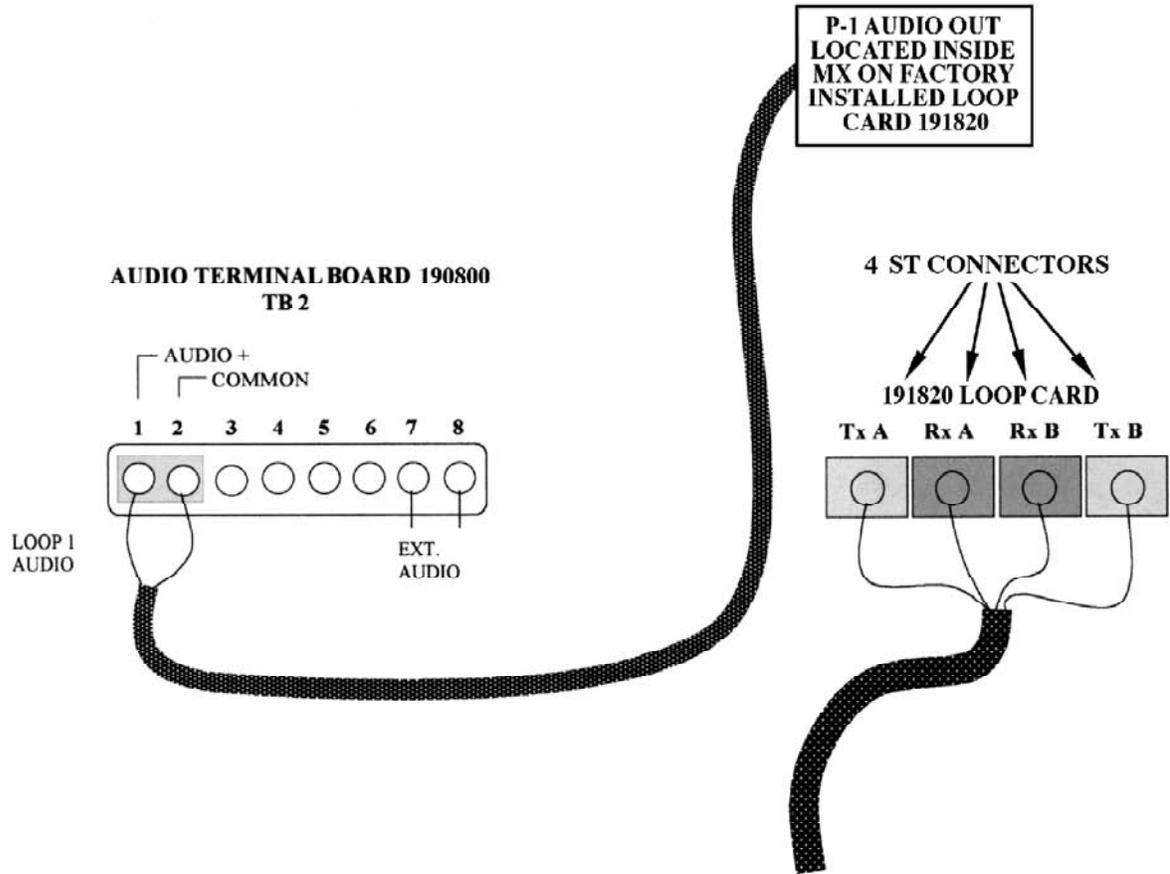

Figure 9. MXF-5500 Loop Connections
- Connect the transponder loop fibers as shown in Figure 9. Perform the connections for each transponder loop connected to your system.